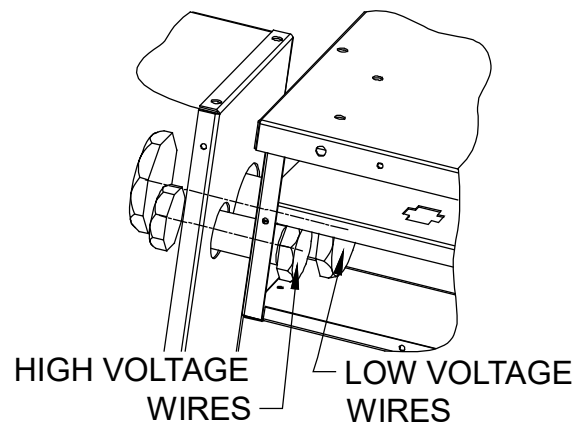

FIGURE 3
3. Route the two electrical conduits (attached in step 1) through the panel on the airhandler. Secure the conduits to the air handler panel with the supplied plastic bushing nuts. See Figure 3.